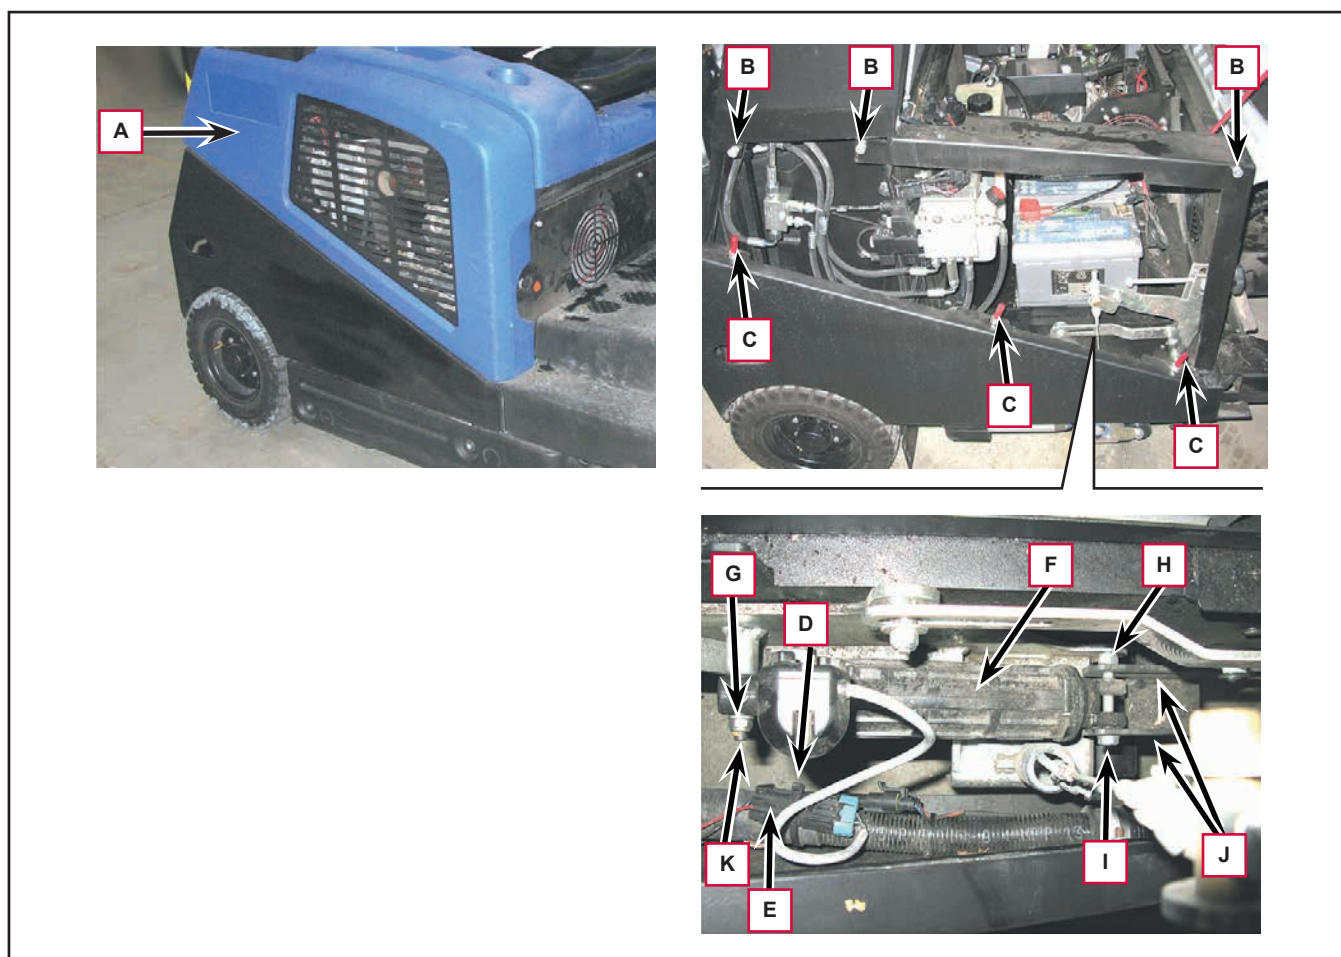

Figure 21
7. Lift and remove the right side panel (A, Figure 21), disengaging it from the upper (B) and lower (C) fasteners.
8. Cut the retaining clamp (D), then disconnect the electrical connection (E) on the main broom actuator (F).
9. Unscrew the locknut (G).
10. Unscrew the locknut (H) and remove the screw (I).
11. Remove the main broom actuator (F).